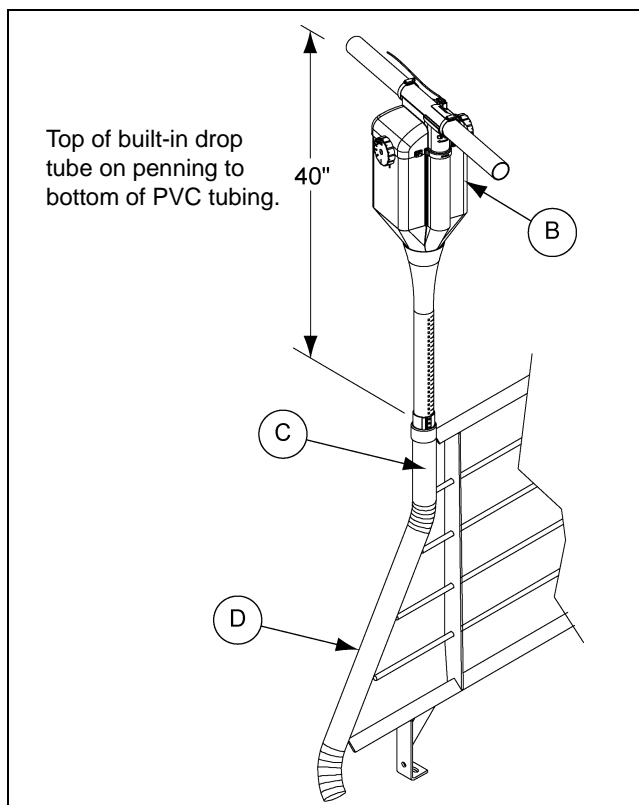

Figure 3C Suspension of Tubing
Suspend the sections of tubing from the ceiling at least once every 4'. The height at which the tubing is installed must be determined based on the placement of the drop tube and the height of the Ultra-Drop. The Ultra-Drop (B) measures 17" from the bottom of the tubing to the bottom of the Ultra-Drop. *Figure 3C* shows a typical application using two-piece adjustable drop tubes (C). **Remember that the Ultra-Drops must NOT be supported by or rigidly connected to the gestating stall.**